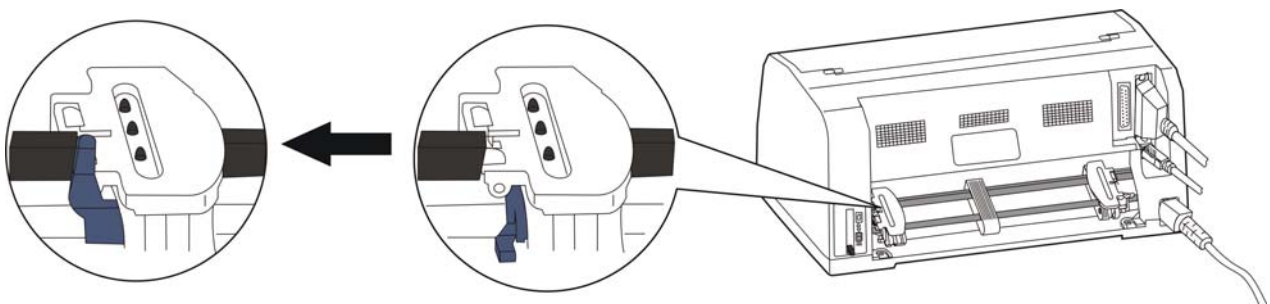

Figure 3-8 Loosen the left tractor lock
3. Loosen the left and right tractor locks. (As shown in Figure 3-8)